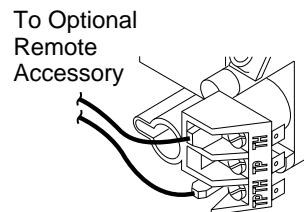

Figure 38 - Connecting Remote Accessory to Control Valve
5. Connect wires from receiver to TH and TPTH to control valve (see Figure 38).